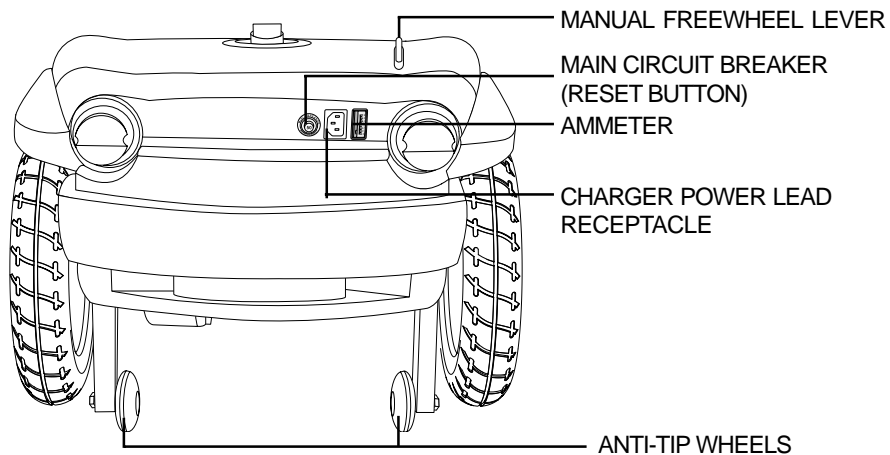

Figure 6. Rear Section
The onboard battery charger (not shown), the charger power lead receptacle, the batteries (not shown), the main circuit breaker (reset button), the ammeter, the manual freewheel lever, the anti-tip wheels, and the motor/transaxle assembly (not shown) are located on the rear section of your scooter. See figure 6.
- The main circuit breaker reset button is located next to the ammeter. See figure 6.